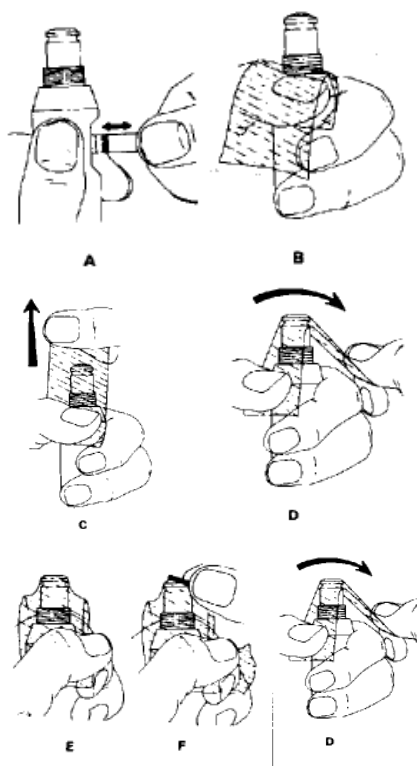

Figure 1. Installing membranes on field probes and non-stirring BOD probes.
2. Hold the probe in your left hand (Figure 1). When preparing the 5739 field probe, the pressure compensation port should be on the right. Successively fill the sensor body with electrolyte while pumping the diaphragm with the eraser end of a pencil or a similar soft, blunt tool. Continue filling and pumping until no more air bubbles appear. When preparing the 5718 field probe and the 5750 non-stirring BOD probe, simply fill the sensor body until no more air bubbles appear.